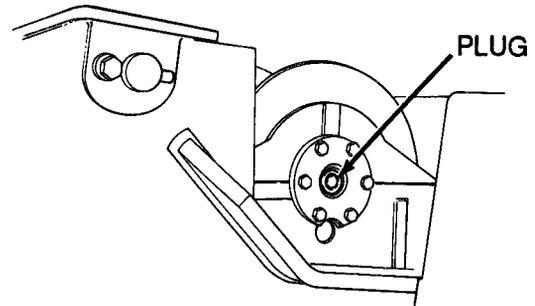

Figure 3-1
Check Winch Lubrication Level: (Figure 3-1)
1. Remove plug (Figure 3-1).